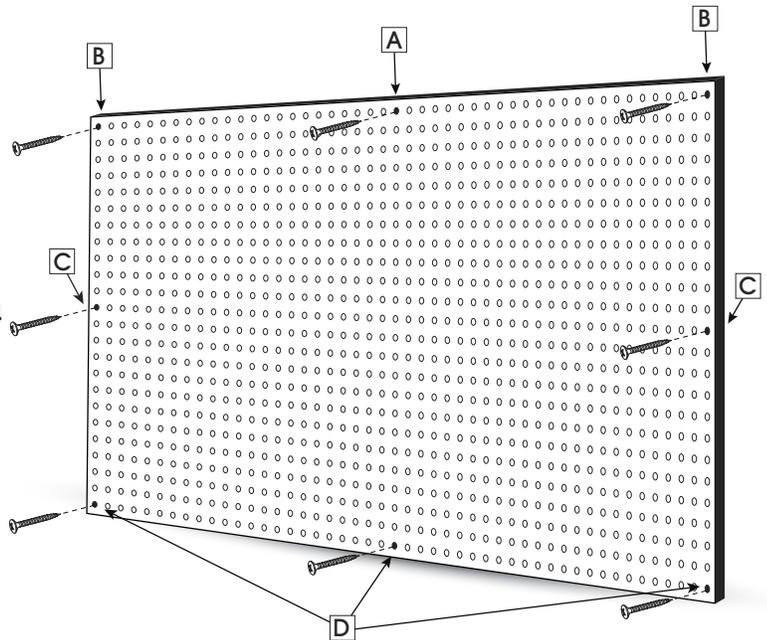

Figure 1
2. With someone holding the pegboard in place, mark holes on wall for hanging. (See Figure 1)
## HANGING PEGBOARD (See Figure 1)